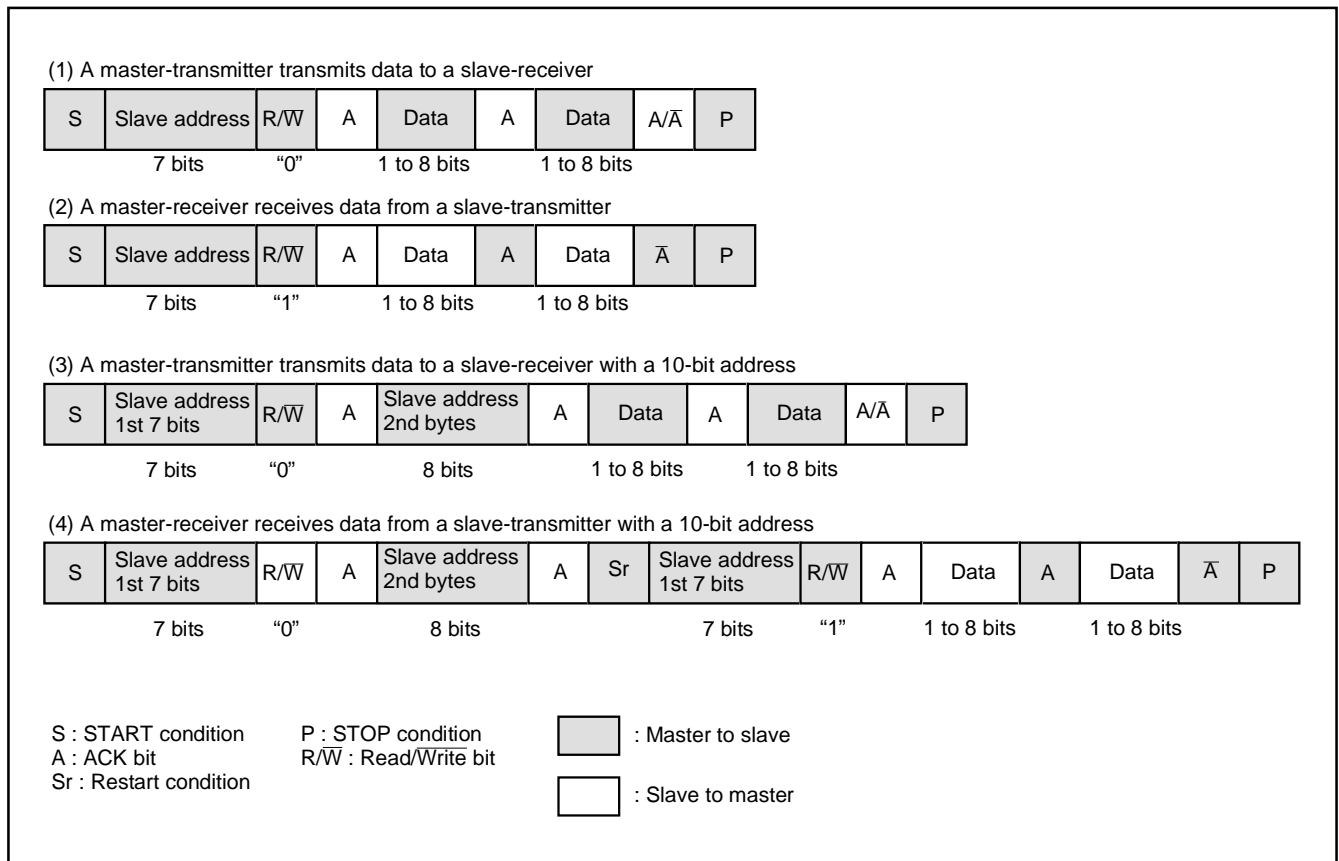

Fig. 77 Address data communication format
① 7-bit addressing format
To adapt the 7-bit addressing format, set the 10BIT SAD bit of the I²C control register (S1D: address 0014₁₆) to "0". The first 7-bit address data transmitted from the master is compared with the high-order 7-bit slave address stored in the I²C slave address register. At the time of this comparison, address comparison of the RWB bit of the I²C slave address register is not performed. For the data transmission format when the 7-bit addressing format is selected, refer to Figure 77, (1) and (2).
② 10-bit addressing format
parison, an address comparison between the RWB bit of the I²C slave address register and the R/W bit which is the last bit of the address data transmitted from the master is made. In the 10-bit addressing mode, the RWB bit which is the last bit of the address data not only specifies the direction of communication for control data, but also is processed as an address data bit. When the first-byte address data agree with the slave address, the AAS bit of the I²C status register (S1: address 0013₁₆) is set to "1." After the second-byte address data is stored into the I²C data shift register (S0: address 0011₁₆), perform an address comparison between the second-byte data and the slave address by software. When the address data of the 2 bytes agree with the slave address, set the RWB bit of the I²C slave address register to "1" by software. This processing can make the 7-bit slave address and R/W data agree, which are received after a RESTART condition is detected, with the value of the I²C slave address register. For the data transmission format when the 10-bit addressing format is selected, refer to Figure 77, (3) and (4).